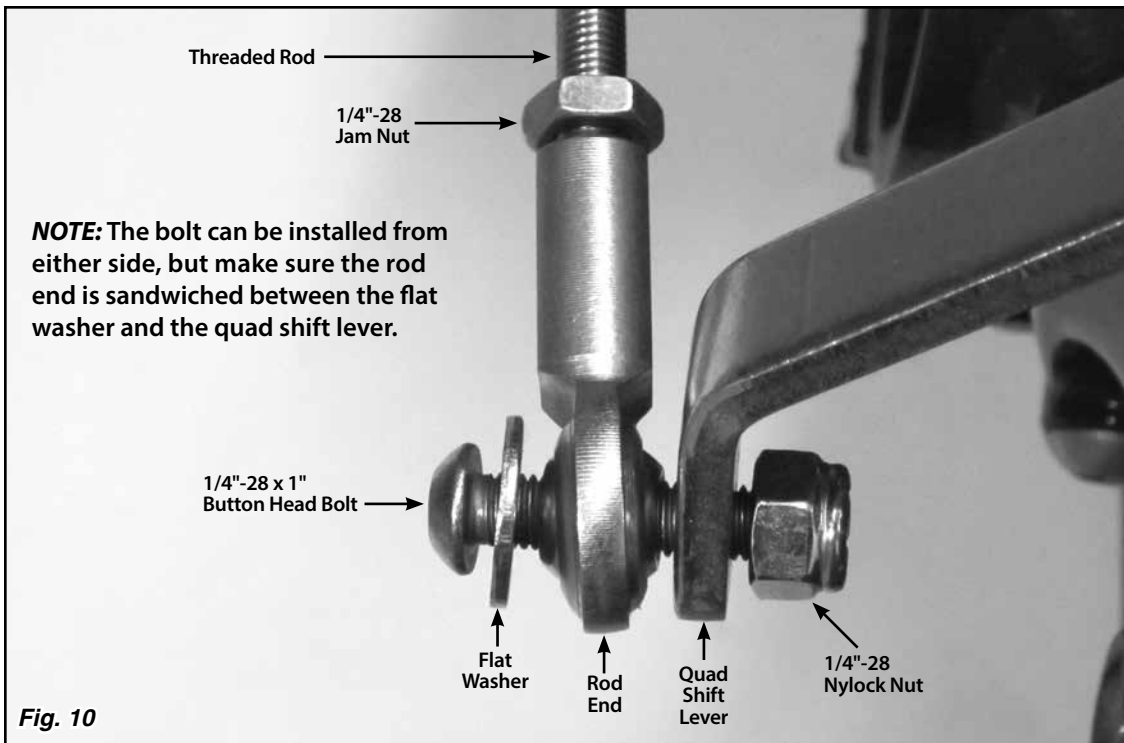
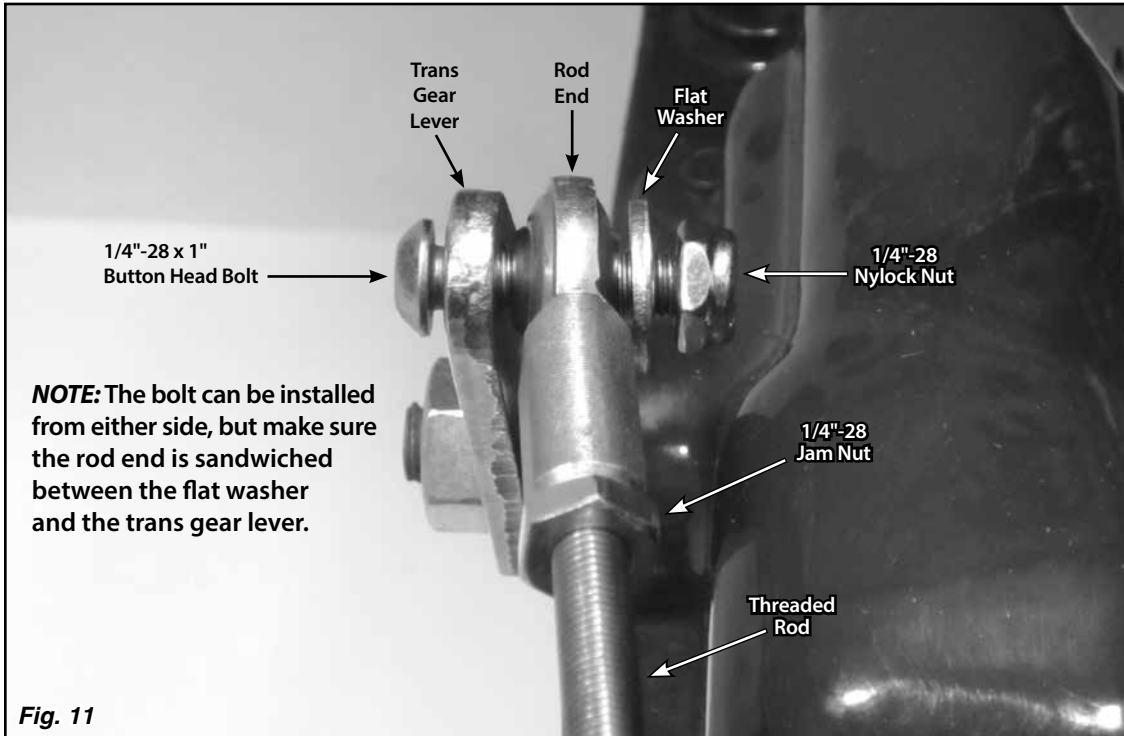

Fig. 10
Fig. 11
Step 15: Verify both 1/4"-28 jam nuts are on the threaded rod, and install a rod end onto each end of the threaded rod. Attach the threaded rod assembly to the **inside** of the trans gear lever and to the **outside** of the quad shift lever using the 1/4"-28 x 1" button head bolts, flat washers, and nylock nuts as shown in **Fig. 10** and **Fig. 11**. The button head bolts can be installed from either direction, but make sure each rod end is sandwiched between the flat washer and the trans gear lever or quad shift lever.